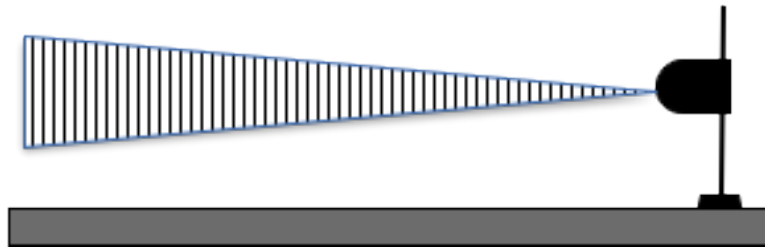

Figure 9: Motion sensor senses motion within a cone.
- The motion sensor sends out pulses of ultrasound, and listens for an echo. It calculates the distance to the object that caused the echo by dividing the time it waits before the echo by the twice the speed of sound (just like a bat does). Ultrasound is directional, so only objects within a cone in front of the motion sensor (see Fig. 9) cause echoes.